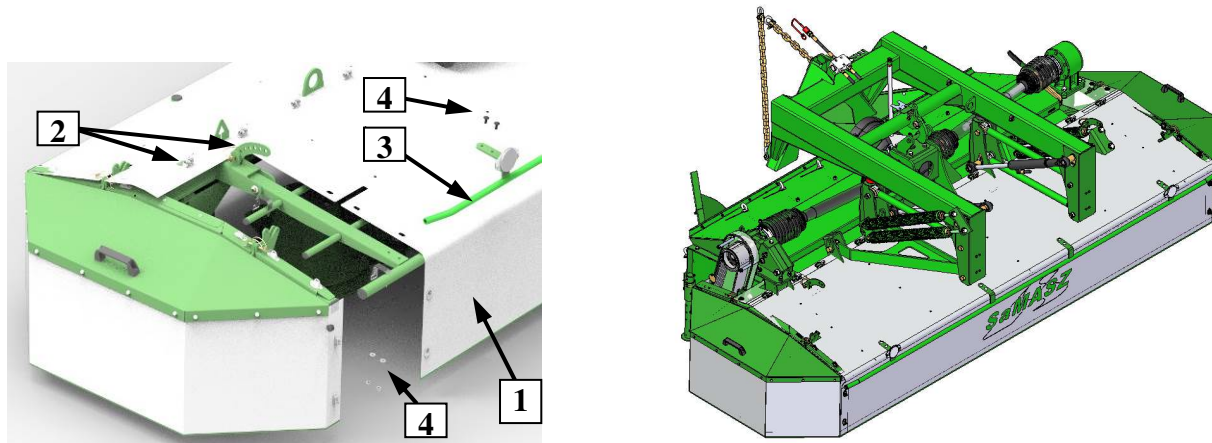

Fig. 7. Mounting safety curtains on the mower
SaMASZ mowers feature standard safety curtains (1) for self-mounting. In order to mount the guard properly, put it on a mower and secure with catches (2) and front guard (3) **Fig. 7**. Examine condition of guards and its mounting on a regular basis. Fix immediately if damaged and replace if missing. Do not operate mower without safety curtains.